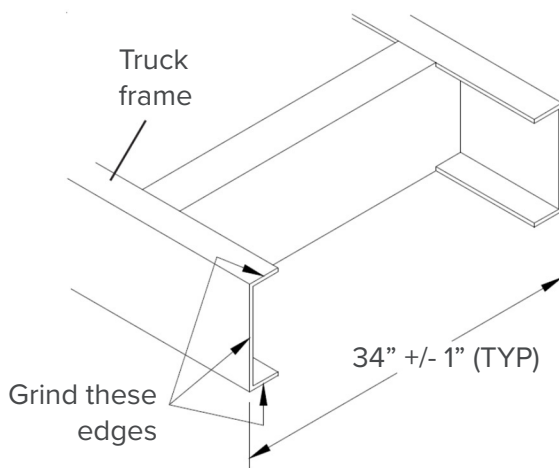

Figure 10
1. Start by grinding chamfers on the inside and outside of the frame ends to prepare for the weld (Figure 10).
2. The plate needs to be a minimum of 1/2" thick and wider than 36" (Figure 10).